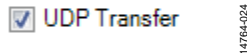

Figure 25. UDP On/Plot Off Mode
- The UDP on/plot off mode, where the **UDP Transfer** checkbox is checked (see Figure 25). In this mode, the data is sent through the UDP and does not display in the graph.